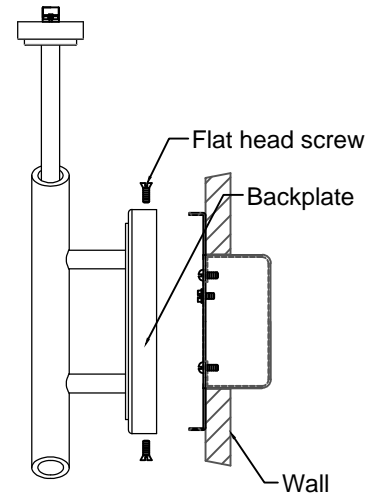

FIGURE-02
5. Attach the fixture to the mounting strap w/ wing and secure it with flathead screws (See Figure-02)